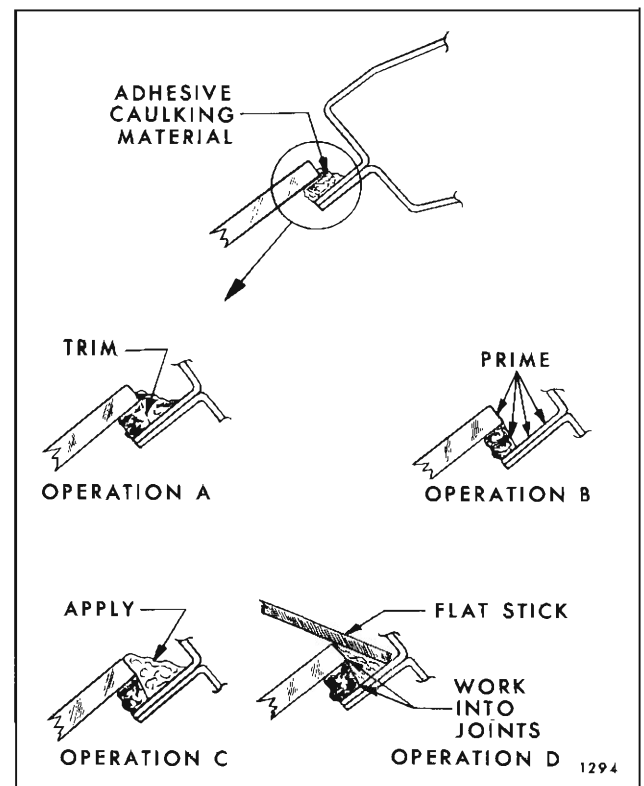

Fig. 2C12—Correction of Adhesive Caulked Glass Installation Waterleaks.
4. Using a sharp knife, trim off uneven edge of adhesive caulking material (See Operation "A", Fig. 2C12) at leak point and 3 to 4 inches on both sides of leak point or beyond limits of leak area.
5. Using a small brush, apply adhesive caulking material primer over trimmed edge of adhesive caulking material and over adjacent painted surface. (See operation "B", Fig. 2C12).
6. Apply adhesive caulking material, as shown in Operation "C" (Fig. 2C12), at leak point and